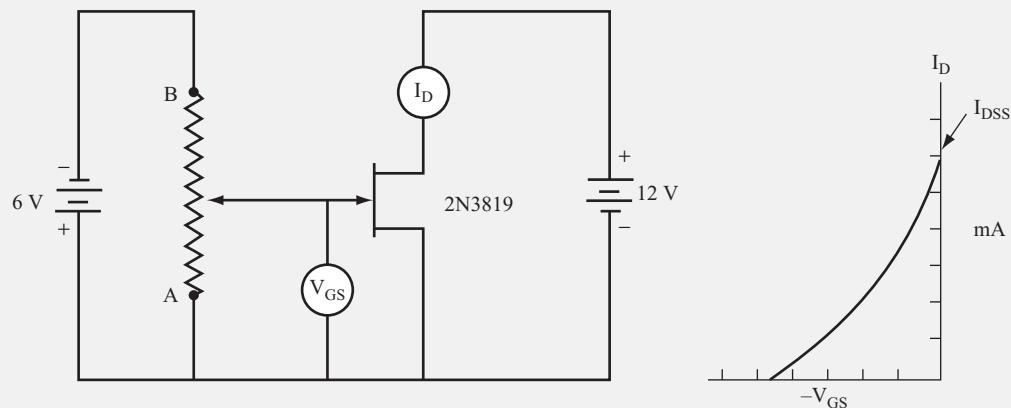
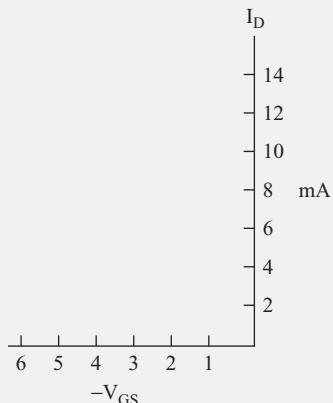

FIGURE 4.22
FIGURE 4.24
The objective of this project is to determine the drain current that flows when a JFET is fully ON, and the gate voltage needed to fully shut the JFET OFF, using the circuit shown in Figure 4.22.
Set up the circuit shown in Figure 4.22. If you have some experience in building circuits, this schematic (along with the previous parts list) should provide all the information you need to build the circuit. If you need a bit more help building the circuit, look at the photos of the completed circuit in the “Expected Results” section.
6. Graph the points recorded in the table, using the blank graph in Figure 4.24. Draw a curve through the points. Your curve should look like the one in Figure 4.22.
With the potentiometer set to 0 ohms (point A in Figure 4.22), the voltage from the gate to the source is zero ($V_{GS} = 0$). The current that flows between the drain and source terminals of the JFET at this time is at its maximum value and is called the *saturation current* (I_{DSS}).